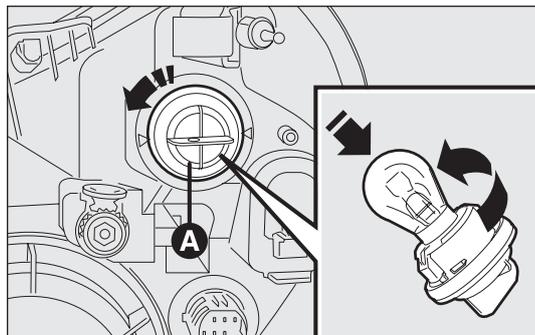

fig. 185
- ❑ turn the bulb holder A-fig. 185 anticlockwise and pull it out;